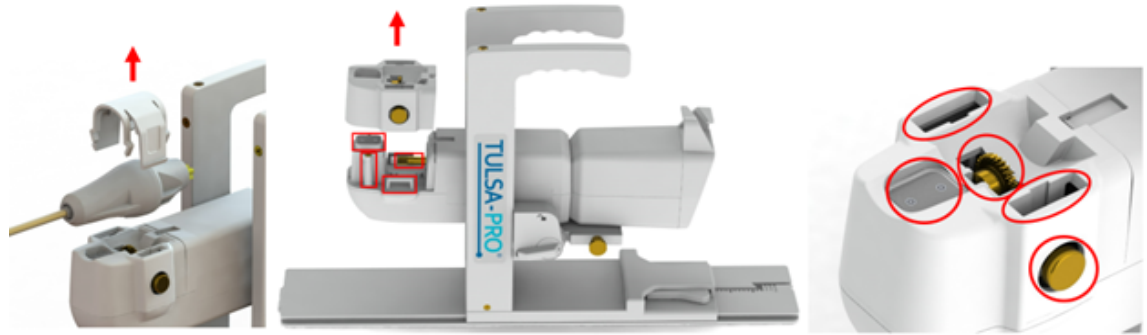

Figure 71: Inspecting the Positioning System
- c. Repeat steps 1 and 2 as necessary until no visible soiling remains, closely inspecting the areas around the gripper and gear (Figure 71).